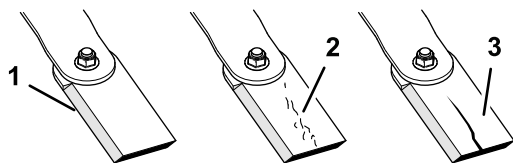

Figure 34
1. Inspect the cutting edges (Figure 34).
4. If you notice any crack or wear, immediately install a new blade (Figure 34).